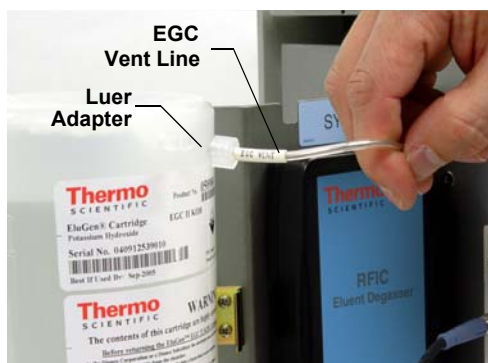

Figure 9-16. Analytical Dionex EGC Vent Line (Standard-Pressure Cartridge Shown)
- a. Remove the **VENT** line from the Dionex EGC by unscrewing the 10-32 luer adapter (see Figure 9-16).
3. Turn the cartridge upside down and place it on the EG drip tray in the service position (see Figure 9-16).
- Connect the **VENT** line removed from the old cartridge to the vent opening in the new cartridge (see Figure 9-16).